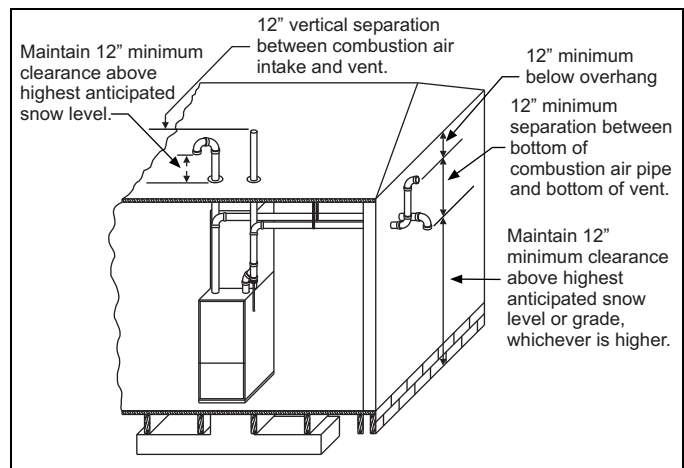

FIGURE 30: Termination Configuration - 2 Pipe
7. Direct vent systems must be installed so the vent and the combustion air pipes terminate in the same atmospheric zone. Refer to Figures 30 or 31.
The combustion air side of the two-pipe configuration shown in Figures 30 and 31 can be installed so the combustion air pipe terminates as described in outdoor combustion air or ventilated combustion air sections in these instructions. Follow the instructions for outdoor combustion air or ventilated combustion air and the instructions for installing the vent system with the vent terminating as shown in Figure 32 or 33. The two-pipe system must have a separate combustion air pipe and a separate vent pipe for each furnace. Under NO circumstances can the two combustion air or vent pipes be tied together. The combustion air and vent pipes must terminate in the same atmospheric zone.